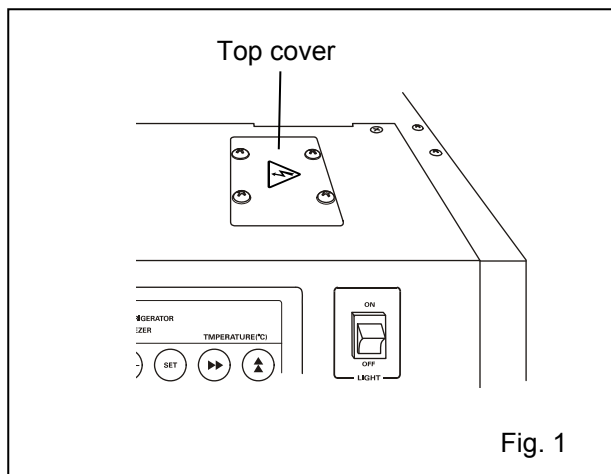

Fig. 1
1. Remove the top cover on the right front of the refrigerator top by unscrewing 4 screws. [Fig. 1]